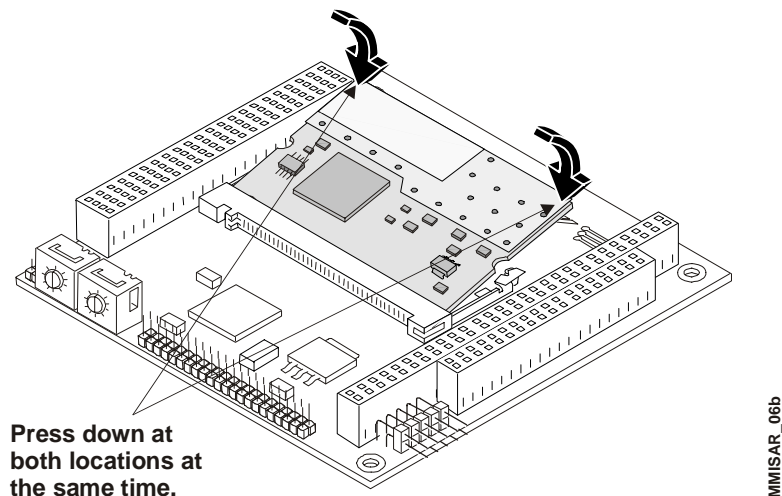

Figure 3-5. Pressing down on the Mini-PCI Card
8. Press the edges of the Mini-PCI card down between the latches, until the latches snap into place. See Figure 3-5.